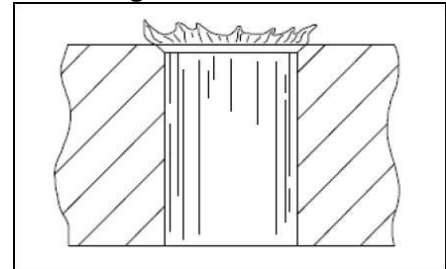

Figure 5 Crowned Burr
c. Crowned Burr (see Figure 5):